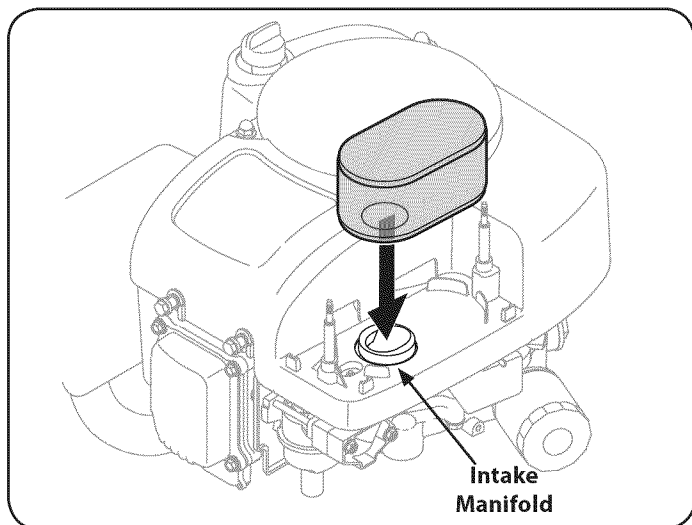

Figure 44
5. Attach the new air filter with foam element, aligning the hole in the air filter with the intake manifold. See Figure 44.